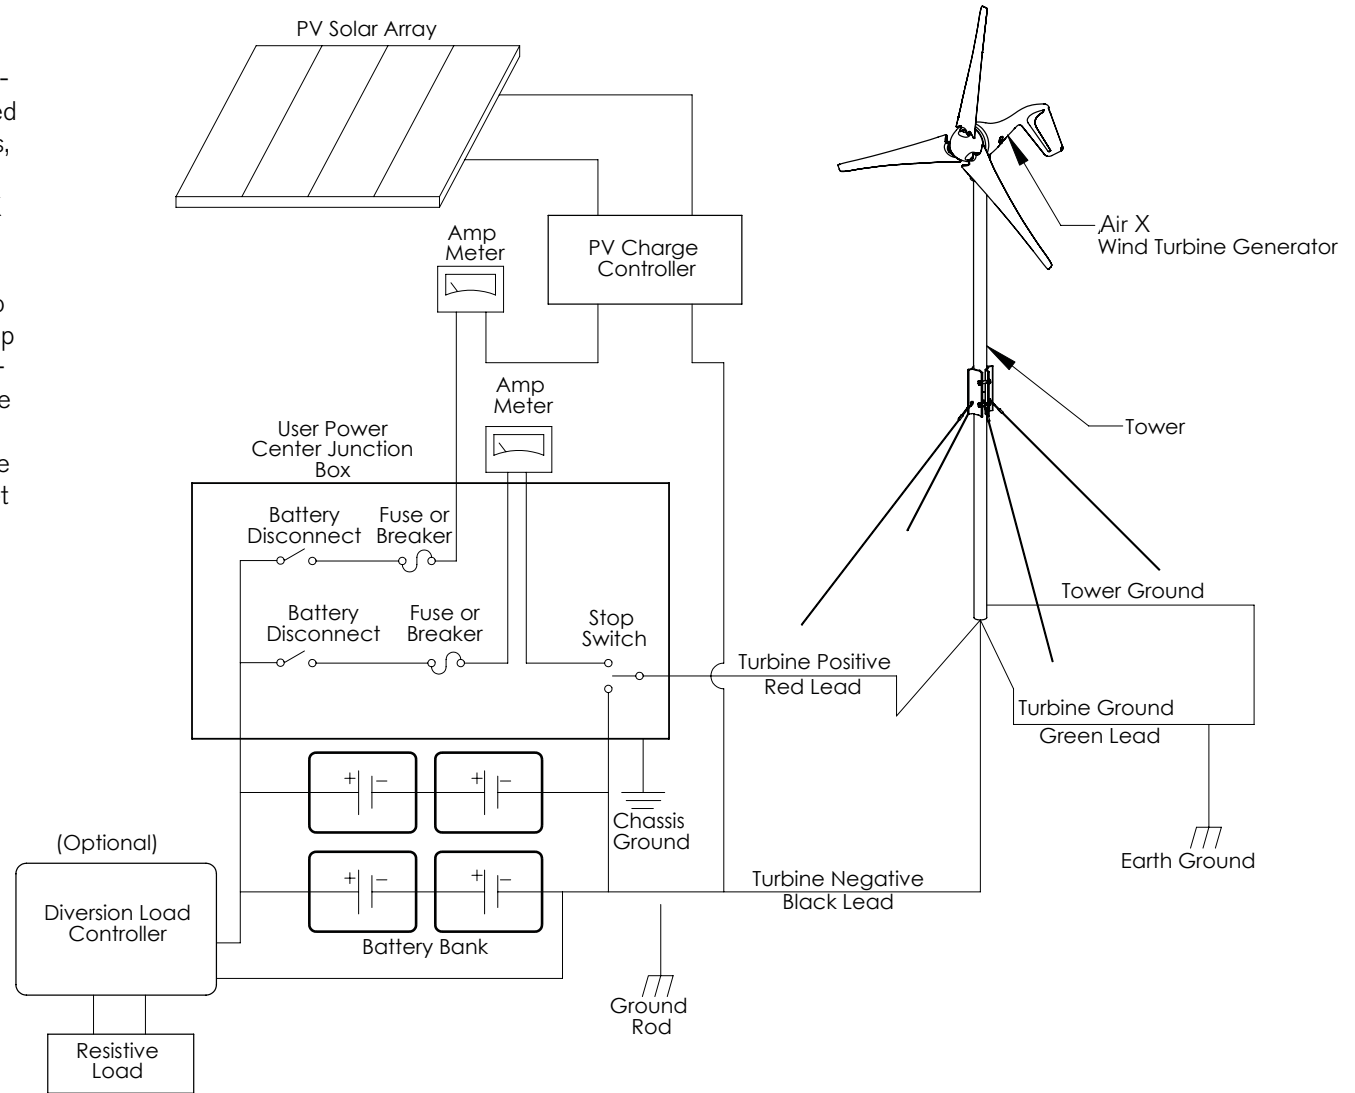

Fig. 11. Hybrid System with Solar Panels
**Fig. 11** represents a typical “hybrid” system with solar panels. Some charging sources (solar panels, fuel-powered generators, additional wind generators, etc.) connected to the same system may cause interference with the Air X internal electronics and result in pre-regulation. The interference will not harm the turbine; it will just cause it to spin slowly as if “braked” or it may stop the turbine. If this occurs, test for possible interference by disconnecting the other charging sources to determine the possible cause. If possible wire the turbine and PV panels to their own set of battery posts.